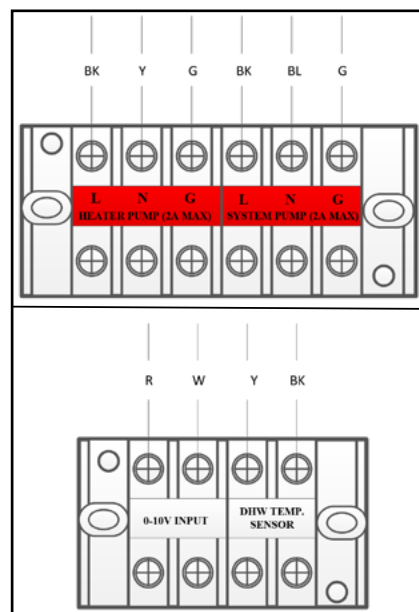

Figure 37 - Internal Wiring Terminal Blocks
2. Connect the system sensor to the Master low voltage terminal strip. See Figure 37. DHW sensor / aquastat / system sensor / 0-10V must be connected to the Master only.